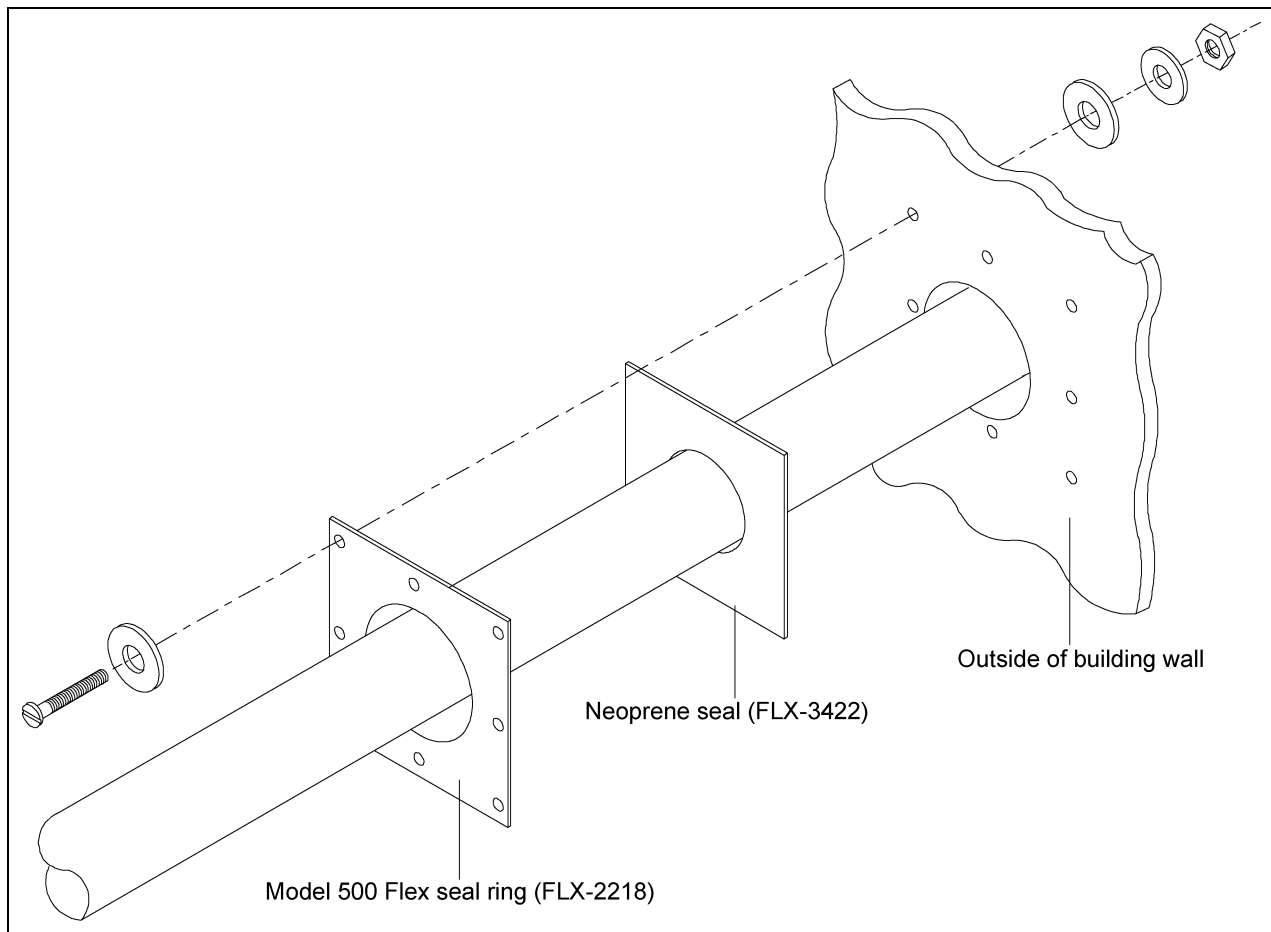

Figure 5J Seal Ring and Neoprene Seal Installation
1. Establish the entry point where the auger tube will enter the building. Once the entry point is determined, cut a hole large enough to accommodate the tubing. A seal ring and a neoprene seal are provided to seal the excess area between the tube and the hole in the building. The seal ring and the neoprene seal shall be installed as shown in Figure 5J.